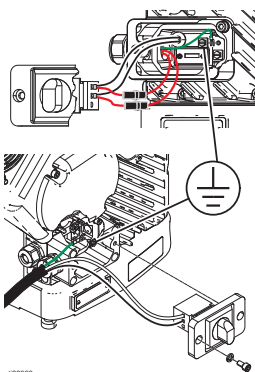
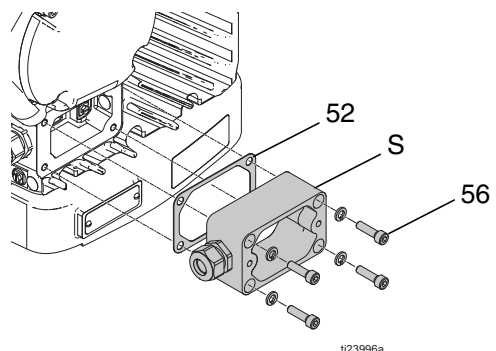

FIG. 16: Ground Screw Location
FIG. 19: Junction Box Sleeve
7. Connect fan ground wire. See FIG. 19, page 15. See FIG. 16, page 15.
9. Install gasket (52), junction box sleeve (S), and tighten four bolts (56). See FIG. 19, page 15.